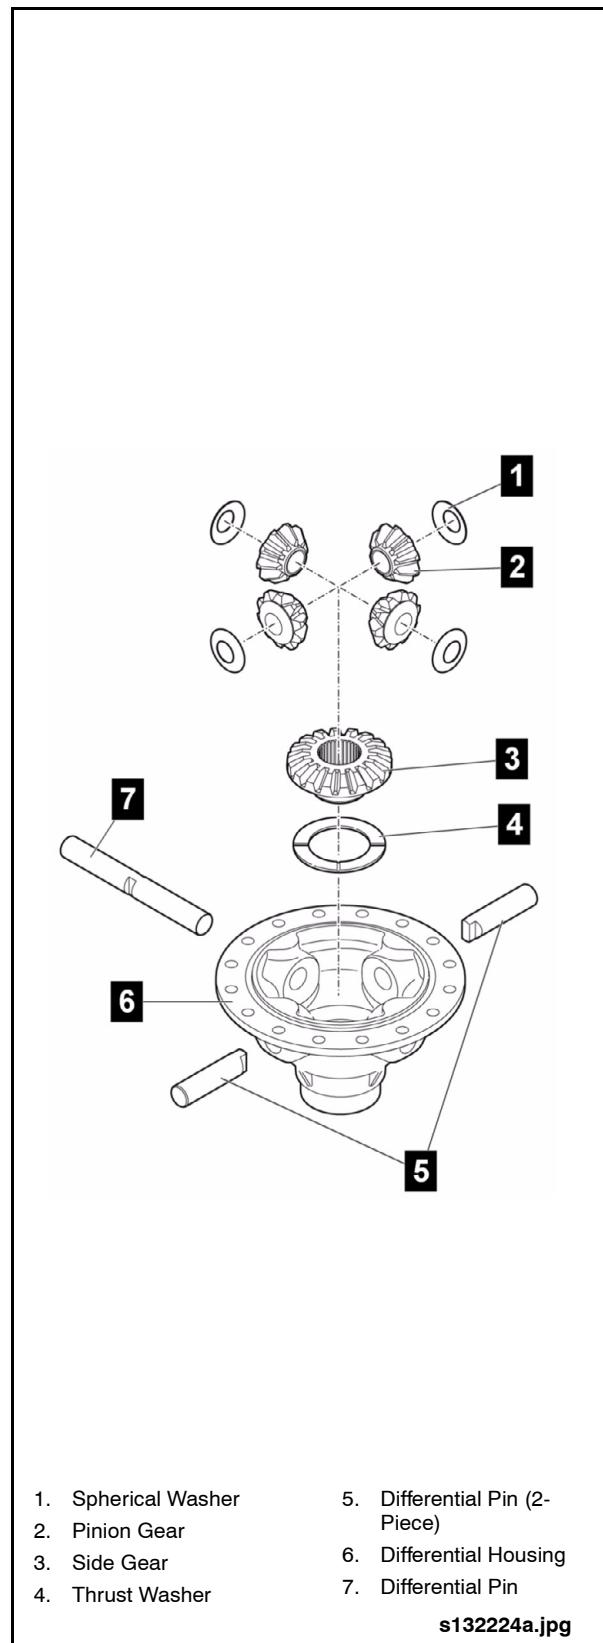

Fig. 2-62: Differential Pinion Gears
2. Pull the differential pins (two pieces) out of the differential housing, then pull out the single piece pin. See "Fig. 2-62: Differential Pinion Gears" on page 52.